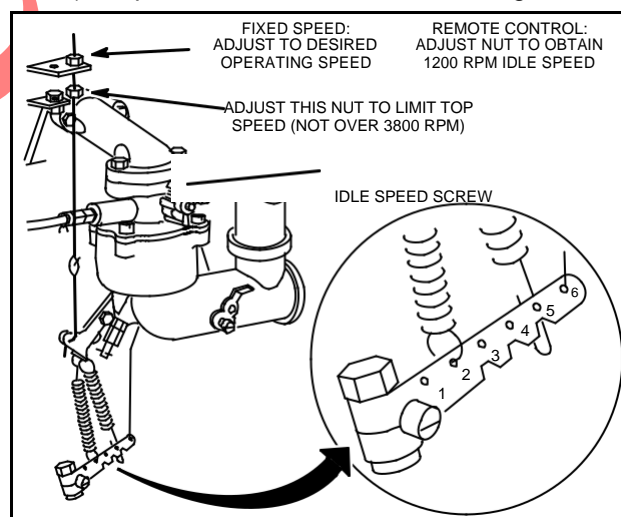

Fig. 329 - ADJUSTING TOP LOAD RPM
3. After speed is set, tighten lower stop nut (except for remote control. Refer to Fig. 329).
Loosen lower stop nut. Adjust top stop nut to obtain top-no-load RPM as listed in Engine Sales Manual, MS-4052 or MS-6225, Service Engine Sales Manual microfiche under note column, or MAXIMUM RPM TABLE at end of each manual for the engine model. After speed is set, tighten lower stop nut, Fig. 329.
Adjust lower stop nut to obtain top-no-load RPM as listed in Service Engine Sales Manual, MS-4052 or MS-6225, Service Engine Sales Manual microfiche under NOTE column, or MAXIMUM RPM TABLE at end of each manual for the engine model, Fig. 329.